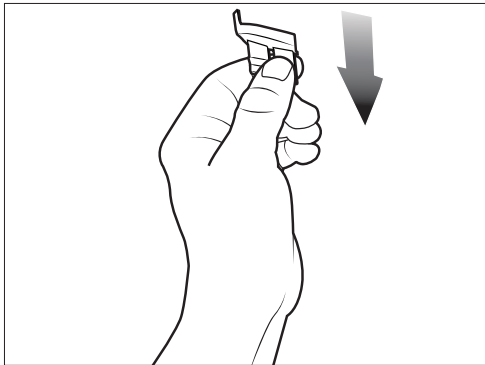

Figure 13. Remove the Brush
Grasp the brush firmly and pull it down away from the cleaner (Figure 13).
- Store the cleaner on its side or back to avoid damage to turbine and brushes (Figure 13).